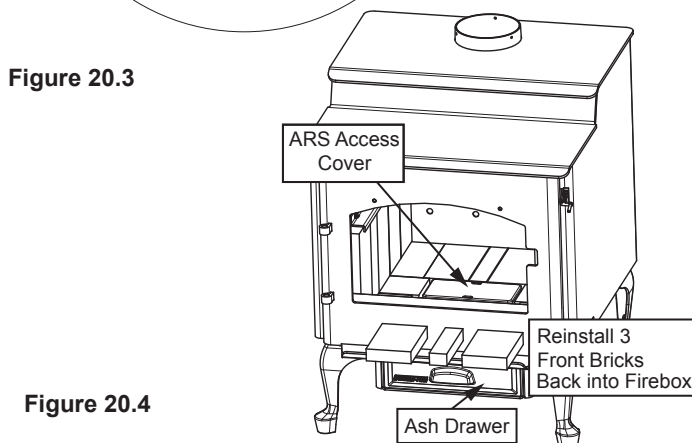

Figure 20.4
- Replace front 3 bricks that were removed (**Figure 20.4**).
- Install ARS access cover inside of ARS Channel that is located inside the firebox (**Figure 20.4**).